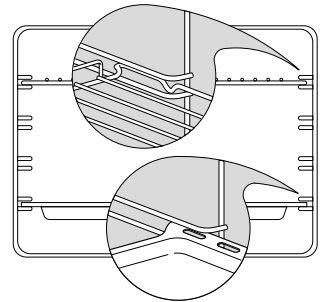

Fig. 21 Correct position of shelves and grill tray
- Slide in the shelves and grill tray as shown in Fig.21. Fit them between the metal runners of the side racks, with the safety stop notch down and at the back. (If the side racks are not already fitted, see 'Care and cleaning' for how to do this.)